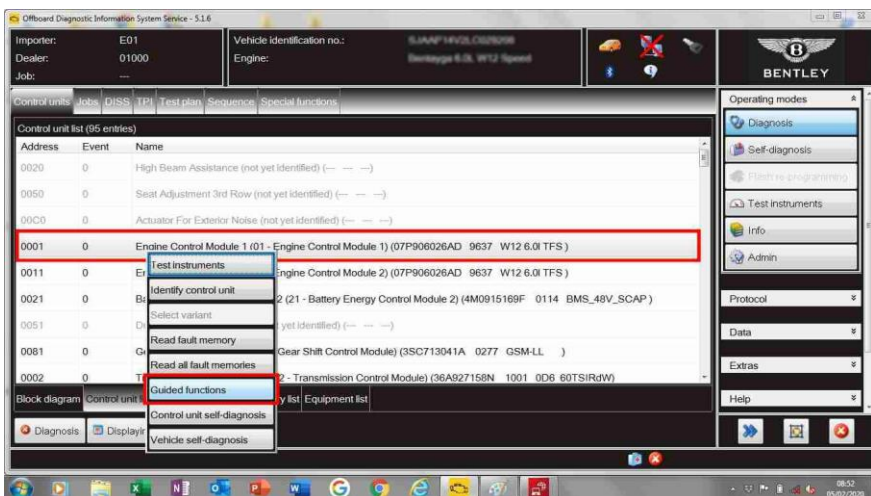

Figure 2.
- “Rightclick” on “Engine Control Module 1 (01–Engine Control Module 1)” and select “Guided functions” – Figure 2.